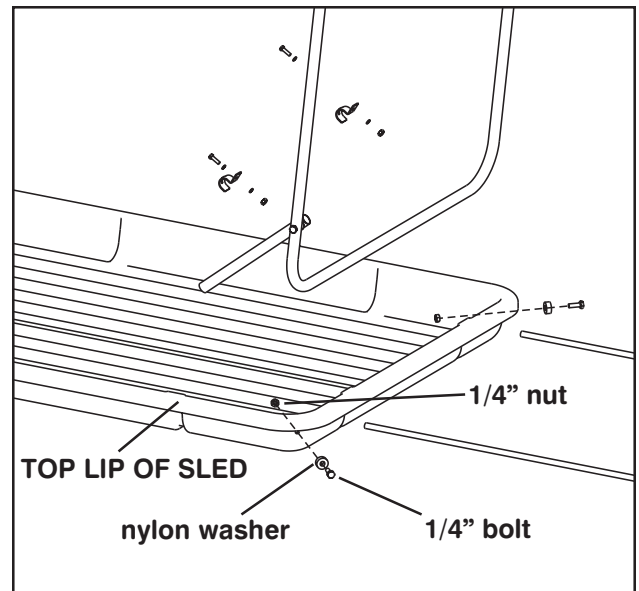

Figure 1
1. Insert (4) 1/4" x 3/4" bolts (69169), (4) nylon washers (48639) and (4) nuts (67538) in each corner of the sled. See Figure 1.
5. Place elastic bottom edge of canvas around sled between the top lip and the nylon washers (48639) . See Figure 1.